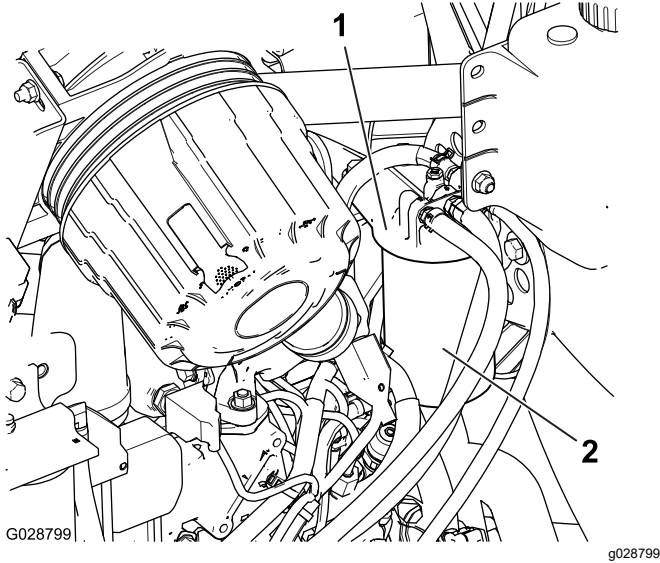

Figure 54
1. Clean the area around the fuel-filter head (Figure 54).
2. Remove the filter and clean the filter head mounting surface (Figure 54).